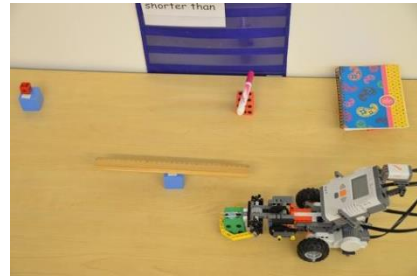

Figure 3
- Controls the robot to drive alongside the object. *If needed, staff can move the comparison object closer to reduce the amount of navigation needed.* See Figure 3